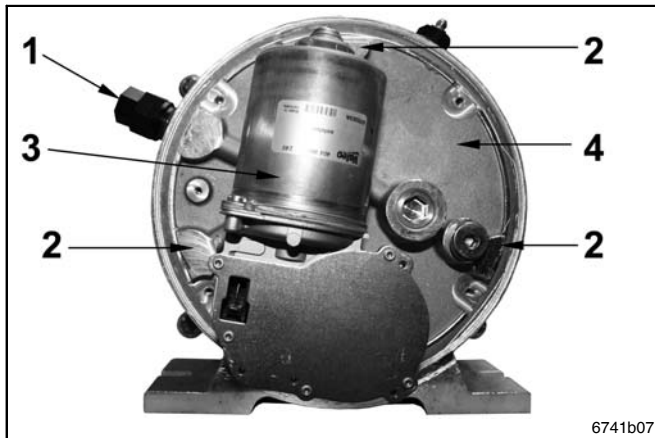

Fig. 3 Disassembled control housing - view from the bottom
- The power supply for the motor is provided via an external control unit 3 (fig. 3).
- During operation the motor 3 (fig 3) builds up pressure until it reaches the **operating pressure**. The monitoring time (max. 20 minutes) starts in parallel.